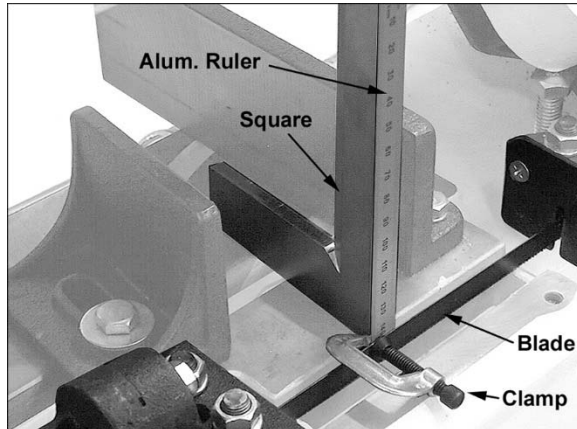

Figure 7-1
1. "Extend" the surface of blade by clamping a straight, flat object to blade. (Figure 7-1 uses a small, lightweight aluminum ruler.) Use a lightweight clamp.
3. If vise and blade are not square, loosen hex nut on stop screw (C, Figure 7-1) with 10mm wrench and rotate stop screw as needed until vise and blade are square whenever the stop screw is contacting the fixed screw.